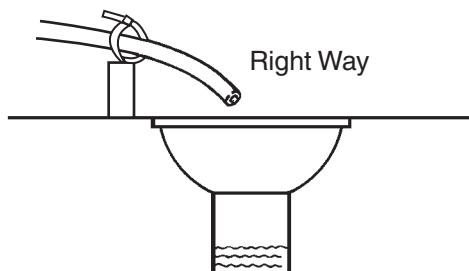

Figure 8 Drain Line Connection
**WARNING:** Never insert drain line directly into a drain, sewer line, or trap (Figure 8 Drain Line Connection). Always allow an air gap between the drain line and the wastewater to prevent the possibility of sewage being back-siphoned into the softener.